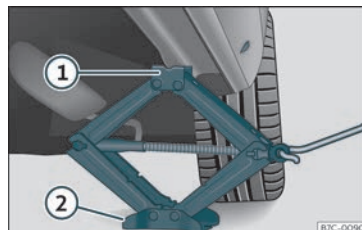

Fig. 43 Cross member: positioning the jack on the vehicle.
- Turn the jack* crank handle, located below the strut support point, to raise it until the tab ① >>> Fig. 43 is below the housing provided.
- Align the jack* so that tab ① "grips" onto the housing provided on the strut and the mobile base ② is resting on the ground. The base plate ② should fall vertically with respect to the support point ①.